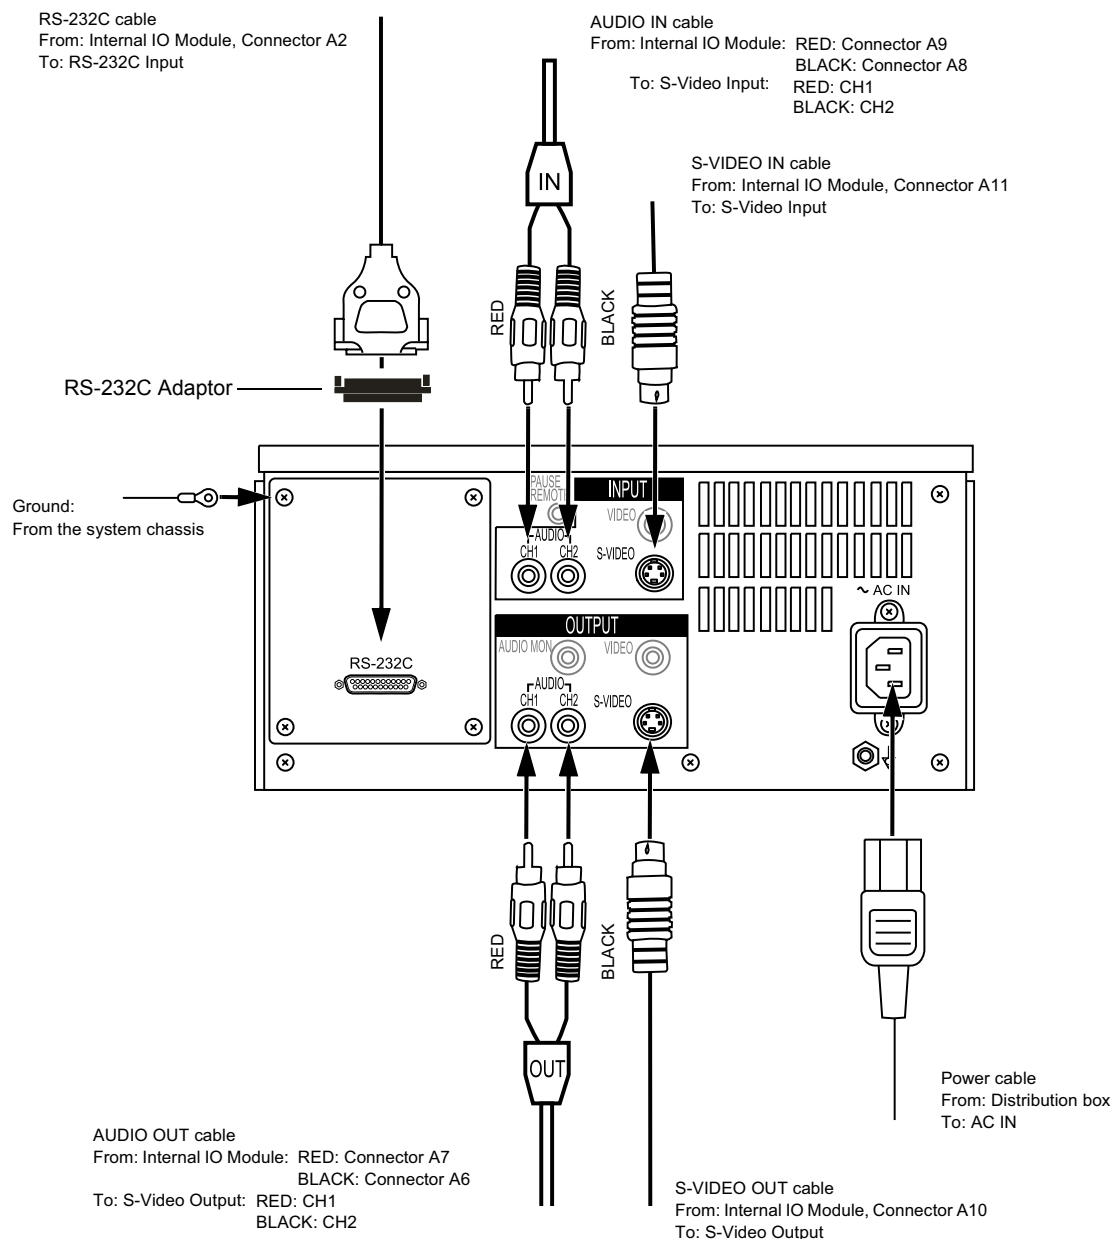

Figure 8-126 Panasonic VCR Connection Cables
- 3.) Connect the Panasonic VCR RS-323 adaptor (Part No. 066E8200) to the RS-232C cable, and then to the RS-323 socket on the rear of the VCR, as shown in Figure 8-126 below.
- 4.) Connect the Audio and S-Video IN and OUT cables, and the Power cable (also shown in Figure 8-126).